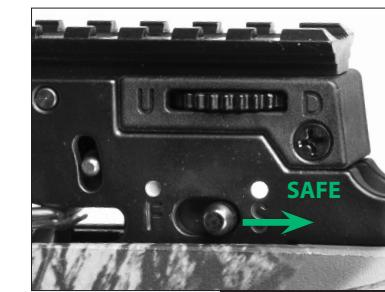

FIGURE 2
2. Slide the safety switch from the **FIRE** position to the **ON SAFE** position. (Fig. 2)
4. Carefully inspect the safety switch to ensure that it is fully in the **ON SAFE** position (Fig. 2). If the safety switch has not moved all the way back to the **WHITE** dot, it has not been placed **ON SAFE** and is still in **FIRE** position. Always visually inspect the safety switch to make certain that it is in the desired position.